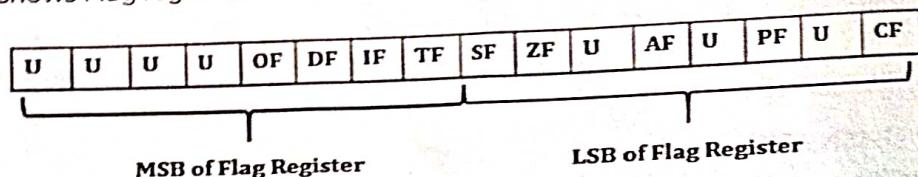

Figure 1.11: Flag Register.
5. Figure 1.11 shows Flag registers.
1. Interfacing of the latch 8282 with the 8086 processor is shown in figure 1.11.
4. On receiving the HIGH (1) ALE signal from the processor, the latches will be enabled and the address is latched.